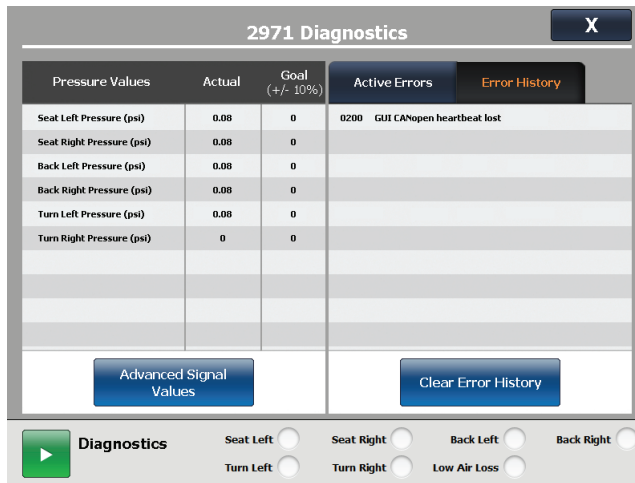

Figure 41 – Diagnostics screen
1. Tap the **Error History** tab on the Diagnostics screen (Figure 41).
- To clear the **Error History** screen, tap **Clear Error History** on the Diagnostics screen (Figure 41).